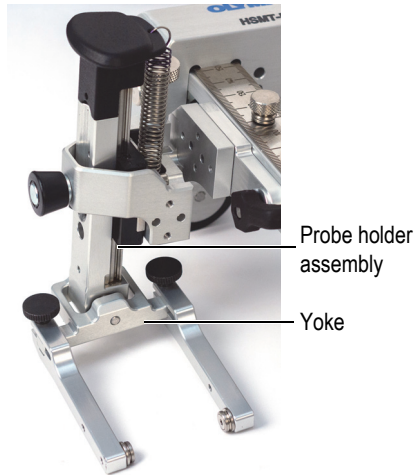

Figure 2-3 Yokes perpendicular to the probe holder
4. Install the scanner on the surface to be inspected. The yokes must be perpendicular to the probe holder to ensure an accurate reading (Figure 2-3 on page 39).